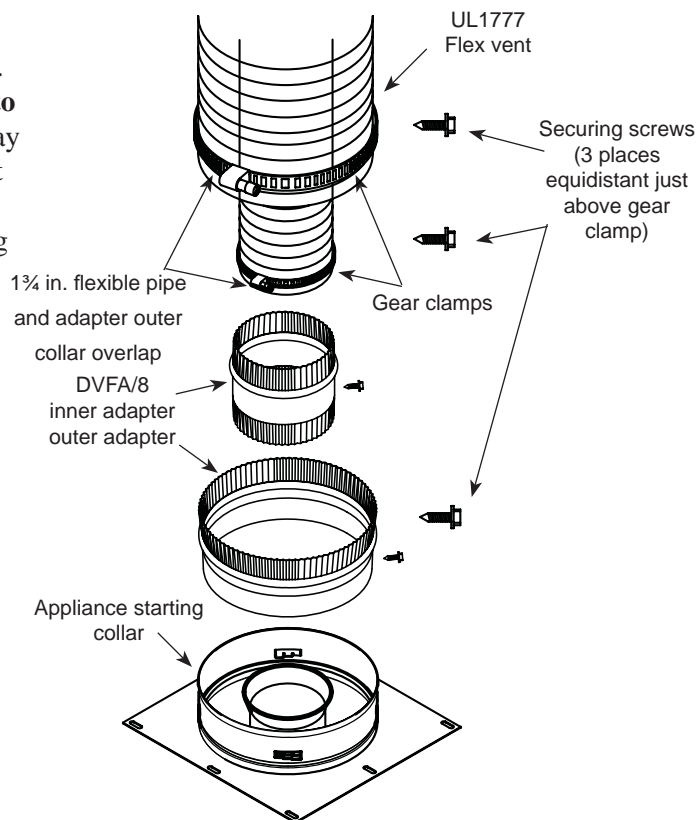

Figure 1 — Typical appliance connection
2. The flex adapter starter kit (DVFA/8) is used to attach flex venting to the appliance starting collar. It includes 4" inner and 7" outer adapter rings (refer to *Figure 1*).
A. Installing the inner flex adaptor and pipe (see *Figure 1*).
B. Installing the outer flex pipe (refer to *Figure 1*).